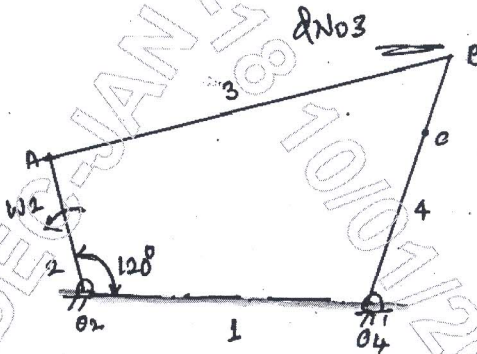

Fig.Q4
- 4 For four bar mechanism as shown in Fig.Q4, determine the acceleration of C and angular acceleration of link 3, when crank 2 rotates at 20 rad/sec . $O_2O_4 = 200\text{mm}$, $O_2A = 150\text{mm}$, $AB = 450\text{mm}$, $O_4B = 300\text{mm}$ and $O_4C = 200\text{mm}$. (16 Marks)